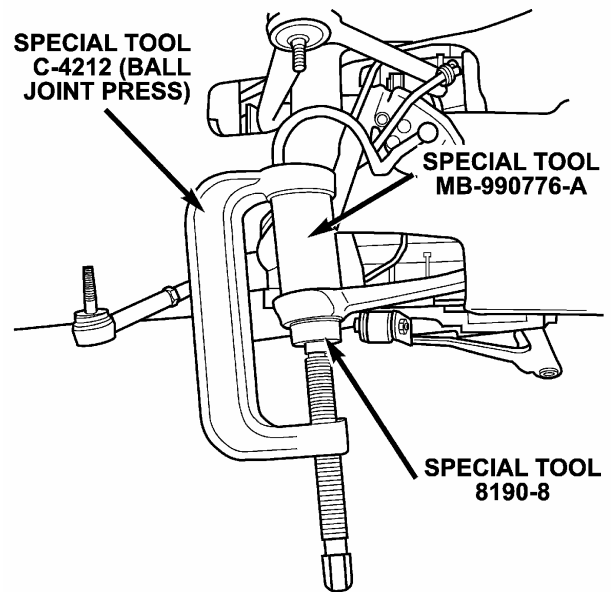

Figure 6
23. Install the ball joint press as shown in Figure 6.